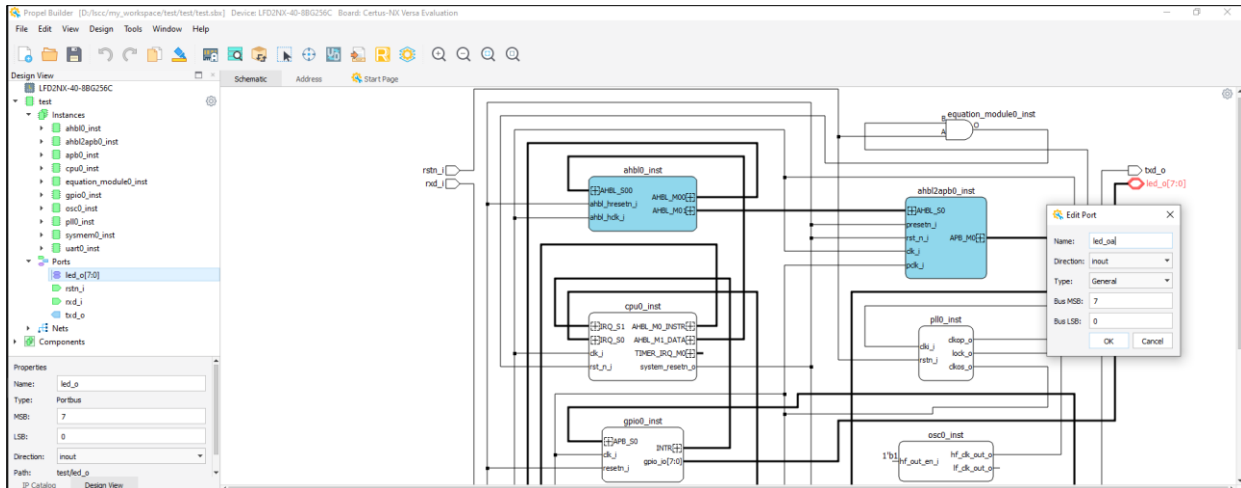

Figure 2.119. Port Edit Dialog
- h. (Optional) Double click on the Port/Portbus in schematic view, the port edit dialog opens (Figure 2.119).